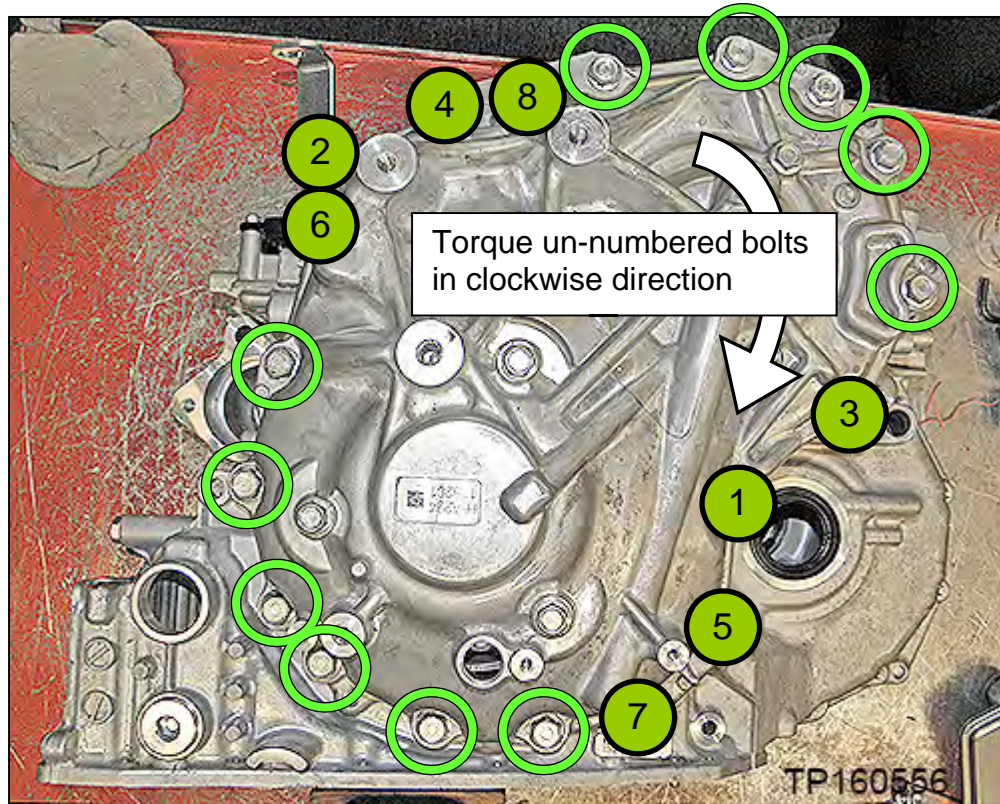

Figure 116
83. Install the new side cover bolts (Figure 116).
- Torque the first eight (8) bolts marked as  in the sequence numbered in Figure 116 below, and then torque the rest of the bolts in a clockwise direction.